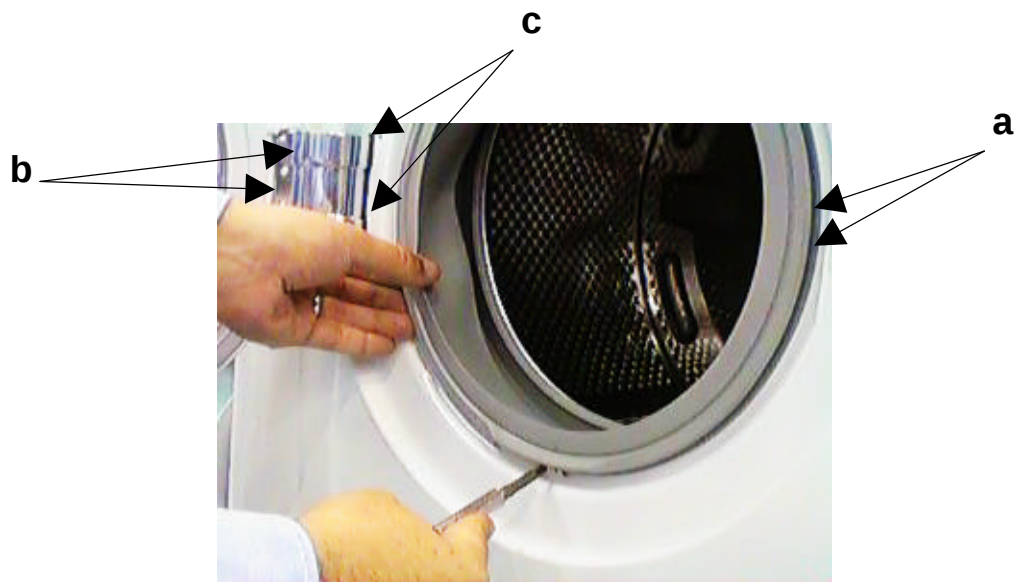

Figure : 8
- The bellow clamp that fixes the bellow to the front panel is taken of using the special pliers (figure 8).
- Front panel is disassembled (figure 8,9,10)
- Bellow damp that fixes the bellow to the front panel is removed (figure 8)
- Bellow is disassembled from the front panel (figure 8)
- Two screws that attach the safety lock to the body are unscrewed (figure 8/a)
- Front panel is removed (figure 8,9,10)